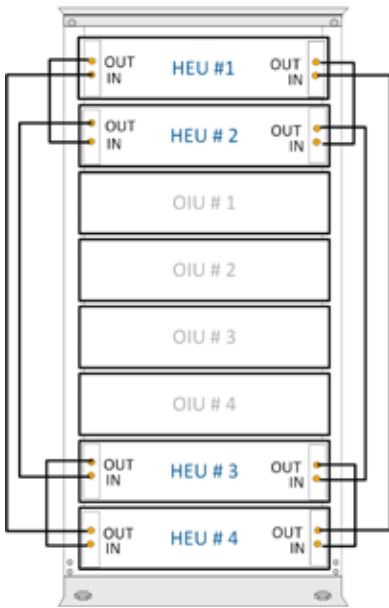

Figure 10. Pilot Clock Connections Diagram – (4x4) Shared Rack
- The REF IN and REF OUT pilot clock ports must be connected in a closed loop as shown in Figure 10.